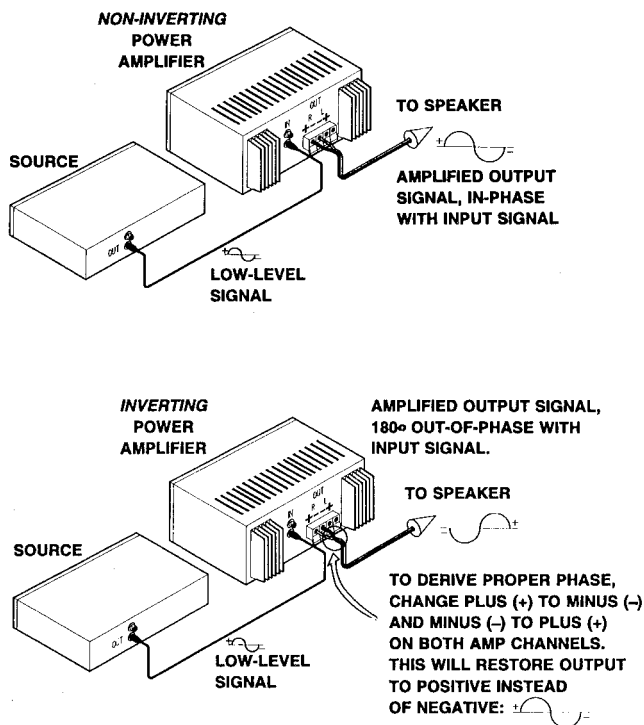

Figure 8: Inverting and Non-Inverting Amplifiers
- Maintaining absolute phase is an essential factor in the proper performance of your speakers. If all amplifiers (as well as the other components in the audio chain) were non-inverting [if their outputs were always in-phase with their inputs], maintaining absolute phase would simply involve observation of the polarities of the speaker connecting wires. However, since there are amplifiers (as well as preamplifiers and CD players) which invert the output from the input (See Figure 8), some changes in speaker hookup may be required in order to restore the system to absolute phase.